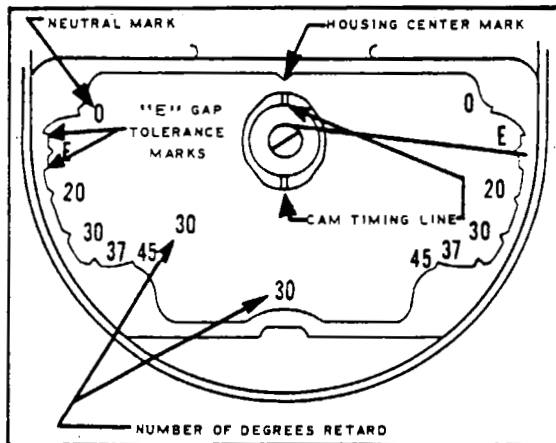

Figure 7-10. Breaker Compartment with Cast Timing Marks
e. If magneto is type which has "cast in" timing marks (-200 series, see Figure 7-10) main breaker may be adjusted with magneto on engine as follows; turn engine crankshaft until notch in cam is aligned with mark at top of breaker compartment. Set wire pointer in center of the "E" gap boss at the side of breaker compartment. Connect timing light across main breaker. Adjust main breaker contacts to open at this point. Turn engine crankshaft until cam follower is on the high point of the cam lobe. Measure contact clearance. It must be  $.018 \pm .006$ . If necessary readjust breaker and recheck to be sure that contacts will open within "E" gap tolerance  $\pm 4^\circ$ . (Width of "E" gap boss.)